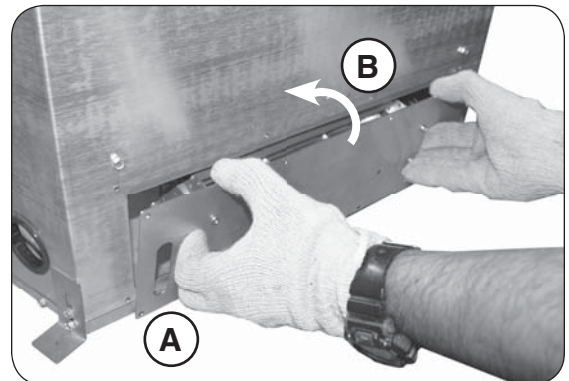

Fig. 3-3 Reinstall panel detail
3. Re-install the panel / fan assembly by first dropping in the bottom of the panel, then lifting up into place (see Fig. 3-3). Use the screws to re-fasten the panel.